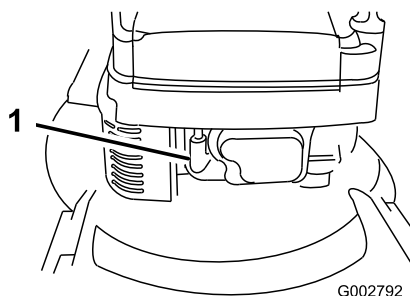

Figure 15
1. Connect the wire to the spark plug (Figure 15).